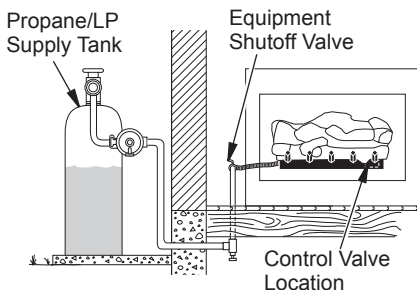

Figure 16 - Checking Gas Joints (Propane/LP Only)
3. Check all joints from gas meter to equipment shutoff valve for natural gas or propane/LP supply to equipment shutoff valve for propane/LP (see *Figure 16 or 17*). Apply noncorrosive leak detection fluid to all joints. Bubbles forming show a leak.
4. Check all joints from equipment shutoff valve to gas valve (see *Figure 16 or 17*). Apply noncorrosive leak detection fluid to all joints. Bubbles forming show a leak.